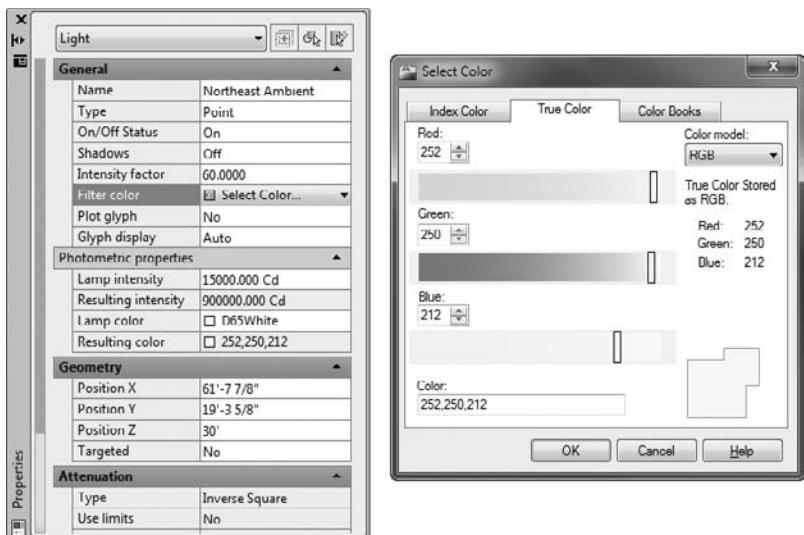

FIGURE 17.19 The properties for the point light
5. Click the down arrow in the Filter Color field, and then choose Select Color. In the Select Color dialog box that appears, change the Color Model to RGB, and enter 252, 250, 212 in the Color field, as shown in Figure 17.19.